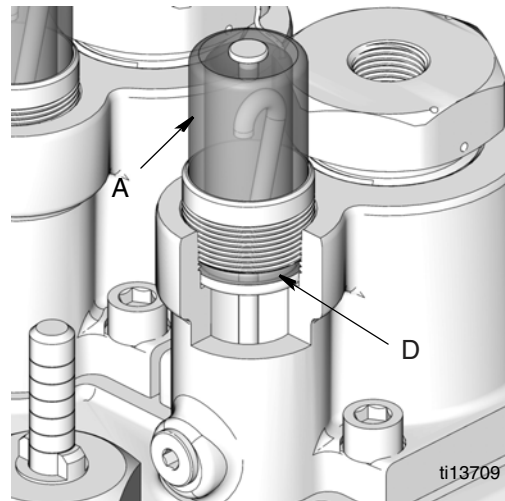

FIG. 6
3. Replace the vent plug (A). Check the sight glass to insure that it is properly seated against the o-ring (D) to prevent air leakage into the sight well (FIG. 6).
- Check the sight glass for inward leakage due to a crack in the sight glass, improper sight glass seating, or a defective o-ring. Repair as required (FIG. 6, page 6).